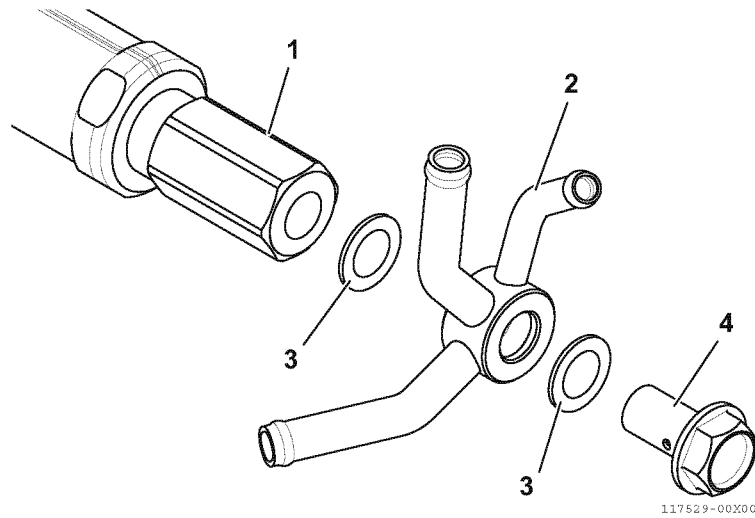

Fig.50-37
- 3 - Install the hose joint (2, Fig.50-37), washers (3, Fig.50-37), and hollow screw (4, Fig.50-37) to the pressure limiter (1, Fig.50-37). Install the washer one each to both ends of the hose joint.